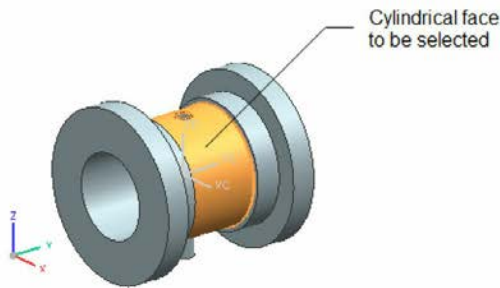
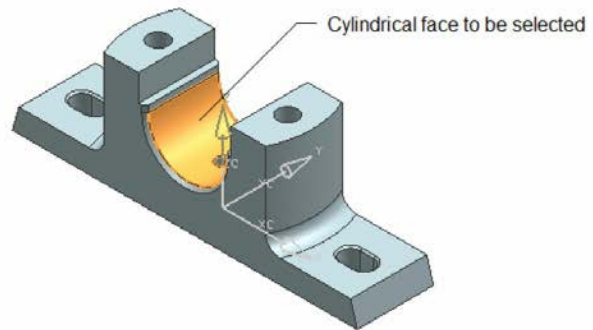

Figure 8-83 Cylindrical face to be selected from the Brasses
Figure 8-84 Cylindrical face to be selected from the Casting
- Insert the Brasses in the assembly window and apply the required assembly constraints to make it a fully-constrained part, refer to Figures 8-83 through 8-87.
6. Select the cylindrical face of the Brasses, refer to Figure 8-83, and then select the cylindrical face of the Casting, refer to Figure 8-84.